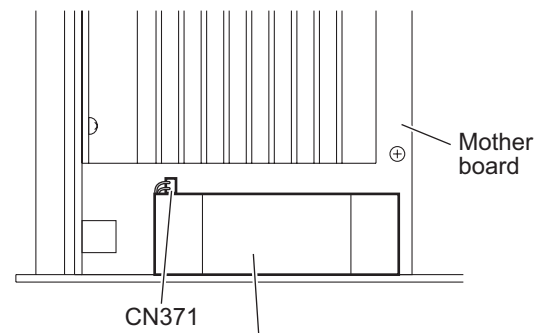

Fig.5
- (2) From the top side of the amplifier assembly, take out the rear panel with fan motor, and disconnect the wire from the connector CN371 on the mother board. (See Fig.5)
- (2) From the top side of the amplifier assembly, take out the fan motor and disconnect the wire from the connector CN371 on the mother board. (See Fig.5)